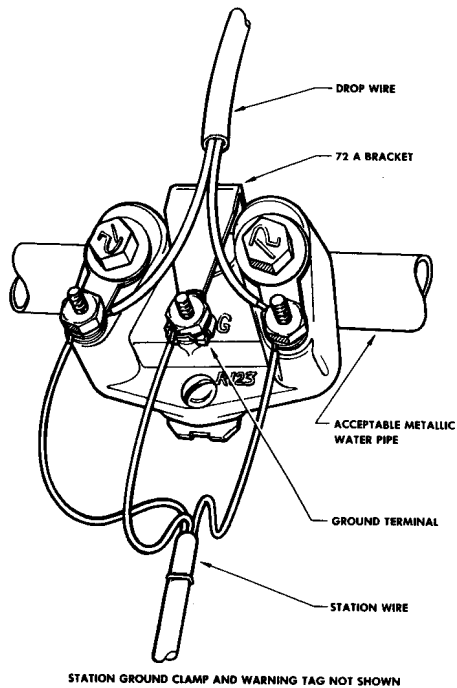

FIGURE 4. Protector Mounting—72A Bracket
- 4.02** The selection of the protector ground should be made in accordance with Table B and as shown in Figures 4 through 18. The only exceptions permitted without the approval of the supervisor or as stated in authorized instructions are those covered in paragraphs 4.06 and 4.07.
4.05 Figure 4 shows the 123 type protector attached to a metallic cold water pipe by means of a station ground clamp and a 72A bracket. This arrangement should be the first choice of grounding to an acceptable metallic cold water pipe.